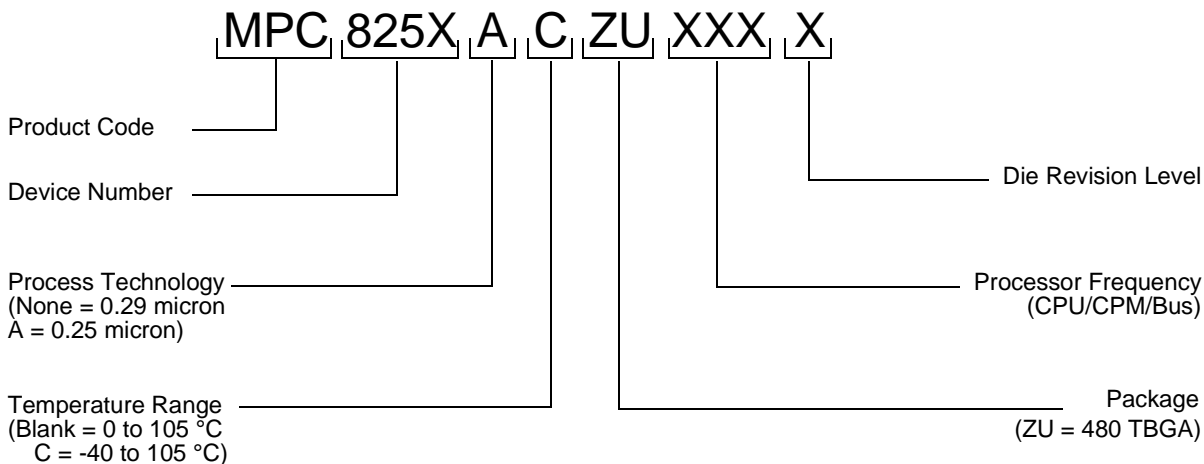

Figure 15. Motorola Part Number Key
Figure 15 provides an example of the Motorola part numbering nomenclature for the MPC8255. In addition to the processor frequency, the part numbering scheme also consists of a part modifier that indicates any enhancement(s) in the part from the original production design. Each part number also contains a revision code that refers to the die mask revision number and is specified in the part numbering scheme for identification purposes only. For more information, contact your local Motorola sales office.
0.1	<ul style="list-style-type: none"> Note 2 for Table 4 (changes in italics): "...greater than or equal to 266 MHz, 200 MHz CPM..." Updated Figure 15 Table 14: footnotes added to pins at AE11, AF25, U5, and V4.